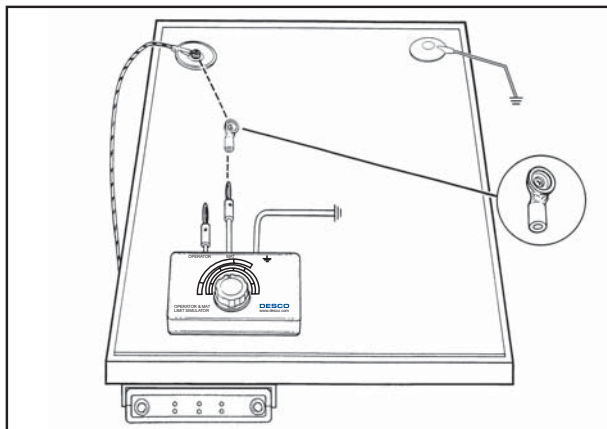

Figure 5. Testing 19232/19233 worksurface for "PASS" and "FAIL" ranges as indicated on calibration unit.
**Step 2:** Connect the 09782 adapter to the banana plug marked "Mat" on the calibration unit. Disconnect the 19232/19233's mat connection and re-install to calibration unit's adapter. See figure 5.